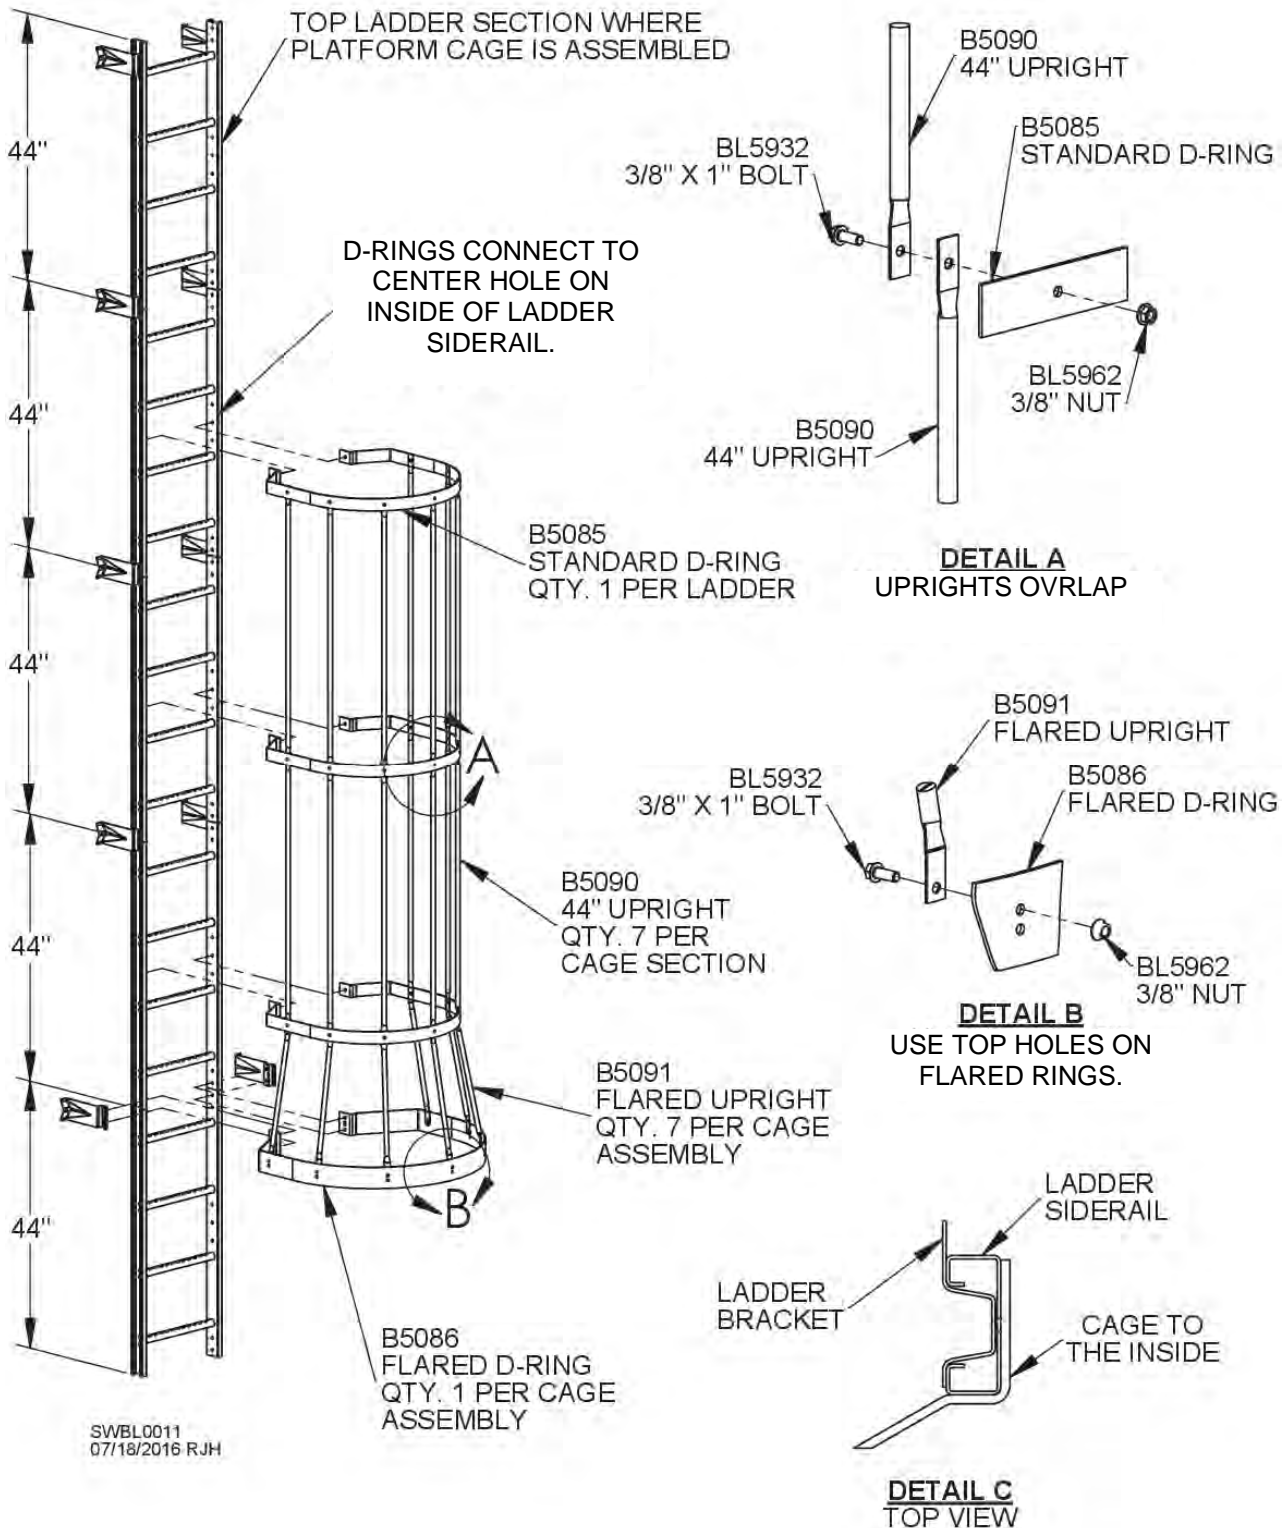

Fig. 16
As bin is built, continue to add appropriate ladder and cage sections. Refer to following pages for specific ladder and cage layouts. Cage sections consist of standard D-rings and seven (7) uprights. Standard D-rings attach to inside of ladder siderails. A flared D-ring (B5086) is always used at bottom of each cage assembly. Top D-ring must be connected to middle of top ladder section. This allows bottom flared D-ring to be at proper height above the next surface (concrete or landing platform). Attach standard D-rings and uprights to ladder sections with 3/8" hardware. See Fig. 16.